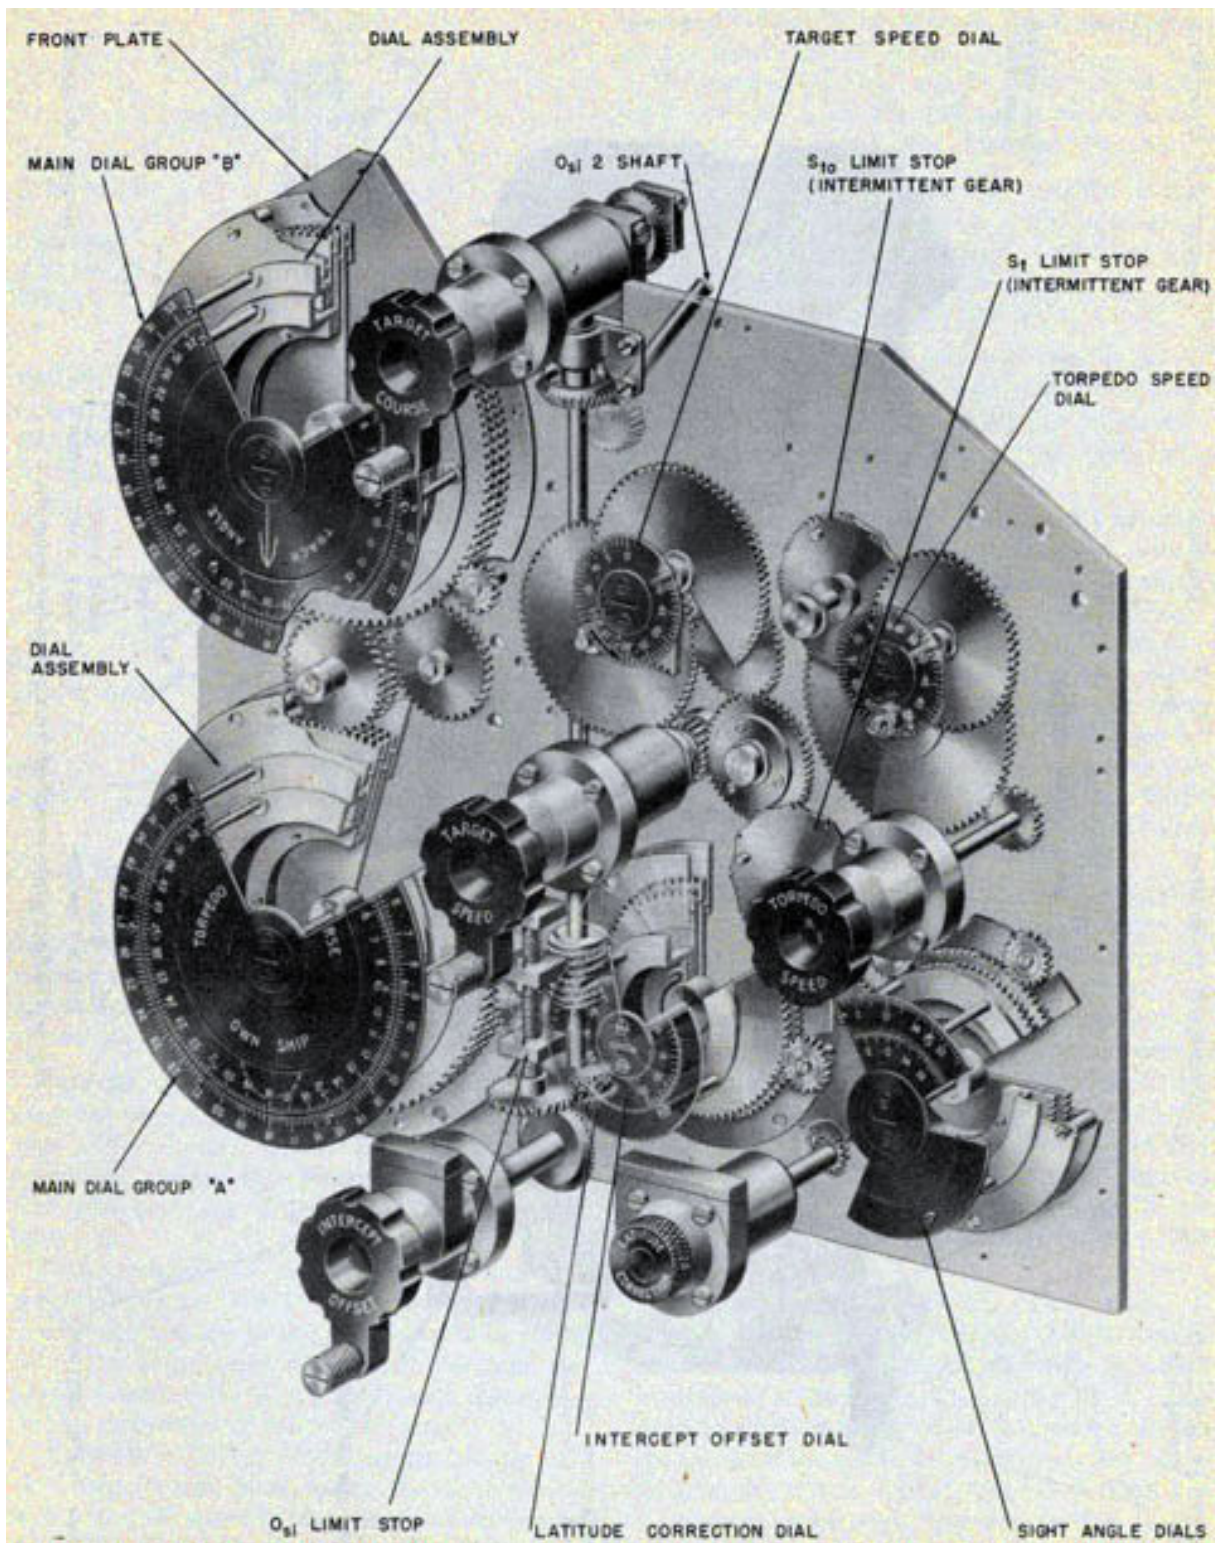

Figure 38-Cutaway of dials, gearing and computer front plate.
STOP MECHANISMS. There are three types of stops in the computer assembly: (1) traveling nut or screw type, (2) contact-arm switch type, and (3) intermittent gear type limit stop. See figures 38 and 41.
The intermittent gear type limit stop assembly consists of a bronze flower-shaped driven gear and a toothed driver gear to which is attached a small stop. See figures 38, 41, and 62. The small stop makes contact with a pin on the inside of the assembly cover plate. The intermittent stop for the target speed gear train has a one-tooth drive gear. This stop is used to prevent the cam follower, in the spiral groove of